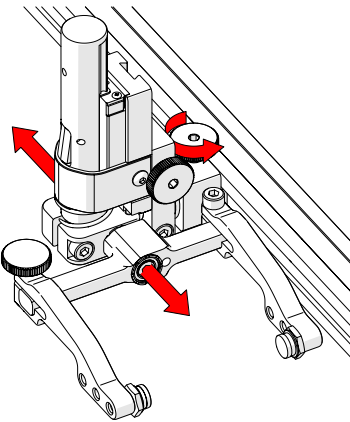

Fig. 142 - Adjust on frame bar
1. The probe holder adjustment knob allows the probe holder to be attached to a frame bar, as well as horizontal positioning on a frame bar (Fig. 142).